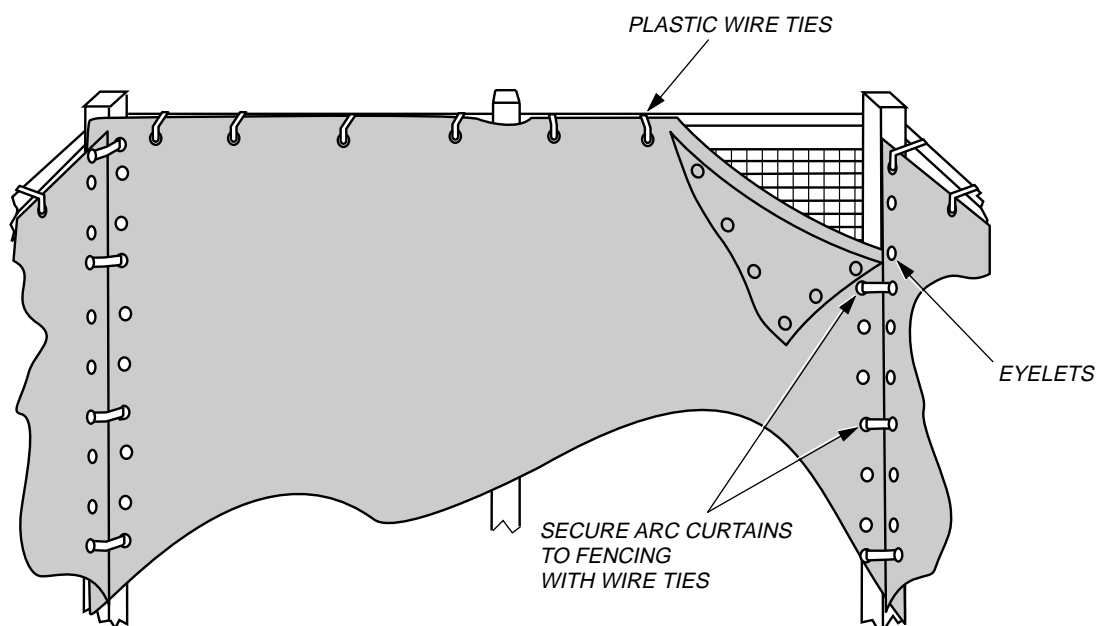

Figure 4-16 Securing the Arc Curtains
25. Once fence sections are positioned correctly, insert appropriate size concrete drill bit through center of fence wall feet and drill holes for lag bolts in floor at locations shown in Figure 4-16.